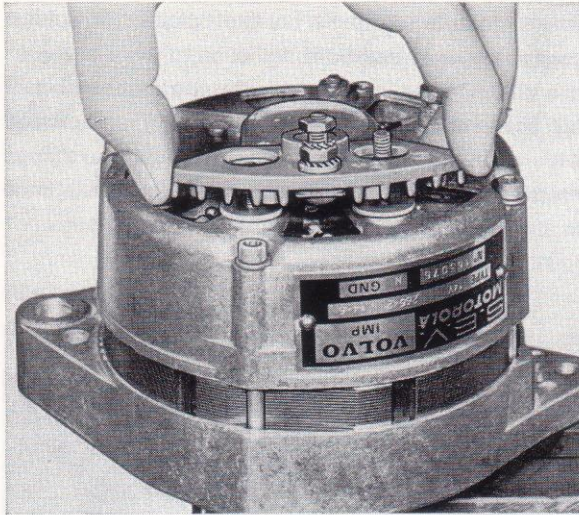

Fig. 26. Removing the isolation diode
4. Remove the nuts and washers on terminal 61 and the corresponding on the other side of the isolation diode. Lift off the isolation diode holder, see Fig. 26.